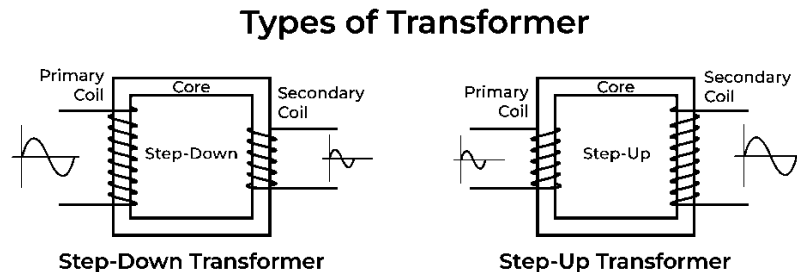

Figure 2: a real step-down transformer
- **Figure 2** shows an illustration of both step-up and step-down transformers.